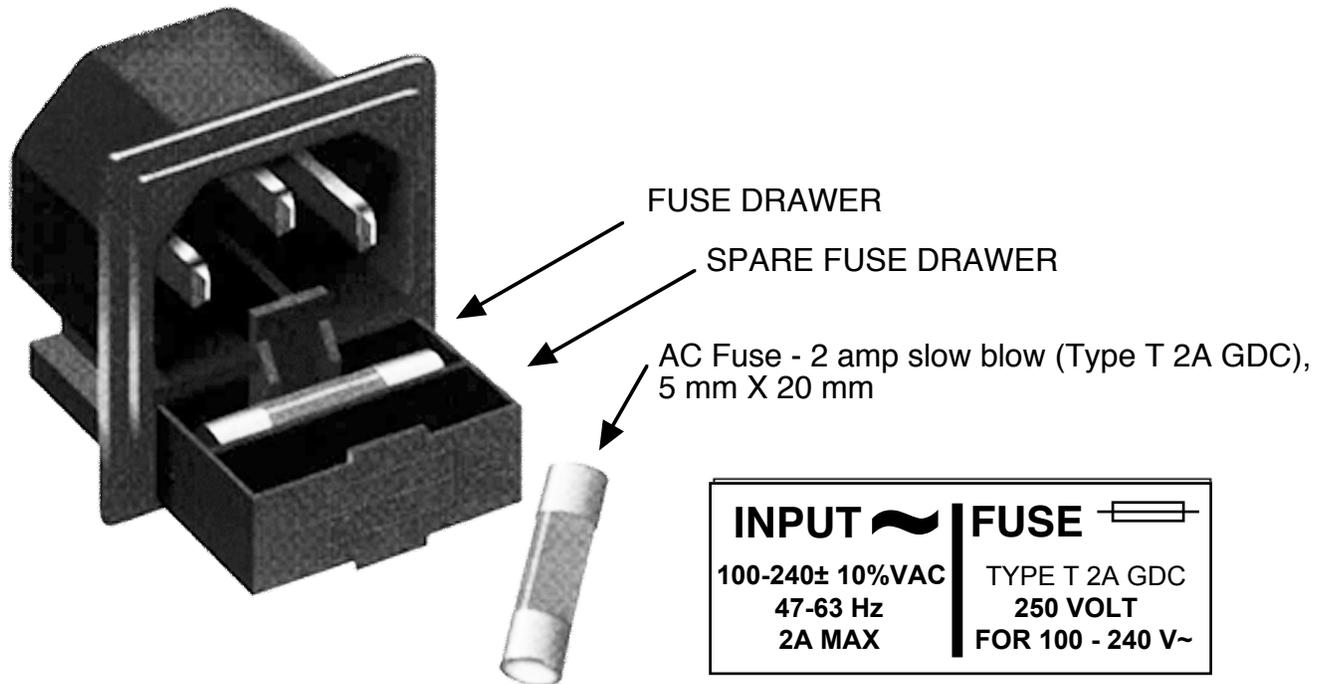

FIGURE 2.3 Fuse Location and Spare Fuse
- 8.) **AC Fuse** - The fuse is a 5 mm X 20 mm, 2 amp slow blow (Type T) and is inserted in the far slot in the drawer below the AC input as shown in Figure 2.3. There is a spare fuse in the near slot. If a fuse continues to open, the power supply is most likely defective.